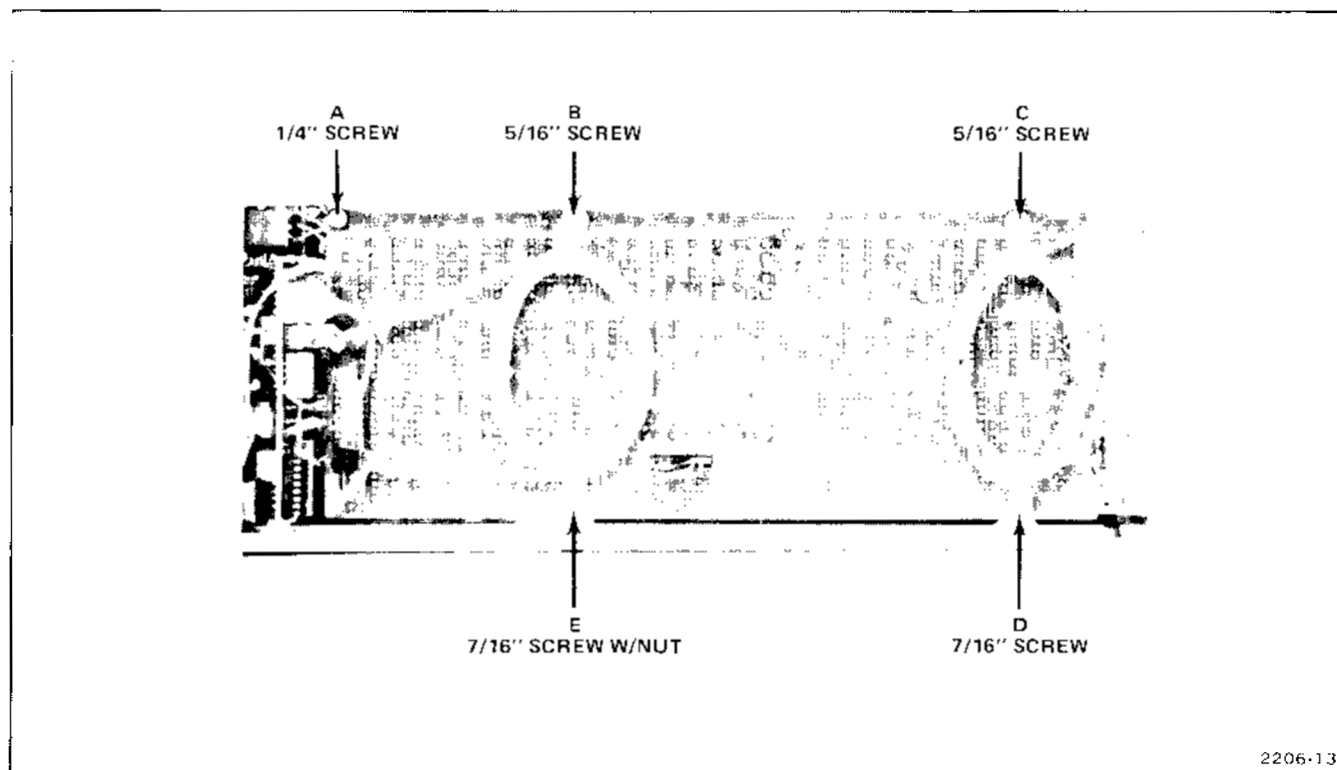

Figure 4-4. Locations of securing screws on the Memory circuit board.
5. Remove 5 screws (A, B, C, D and E on Fig. 4-4) from Memory circuit board. Two delay lines will now come loose from Memory board.
3. Remove 4 screws (B, C, D, and E on Fig. 4-4) from Memory circuit board.